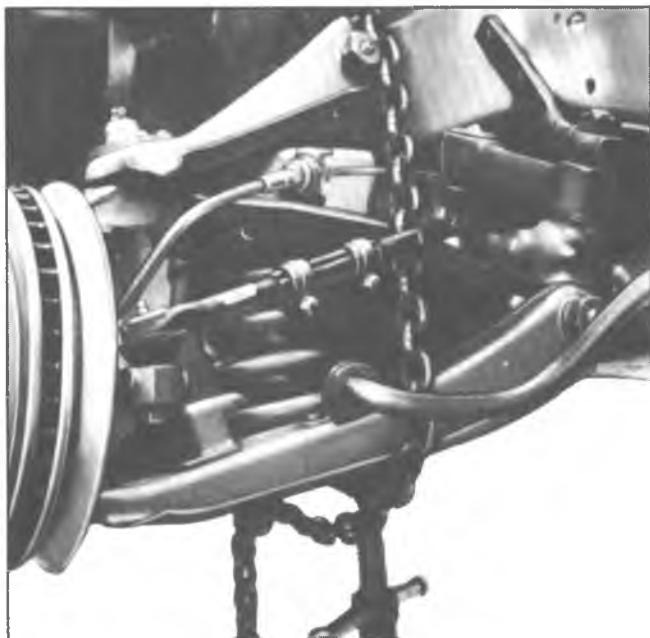

Fig. 29—Removing Inner Pivot Shaft
Lower—Removal (Fig. 29)
3. Install a chain over upper arm (Fig. 29). Inboard of stabilizer and outboard of shock absorber as a safety measure.